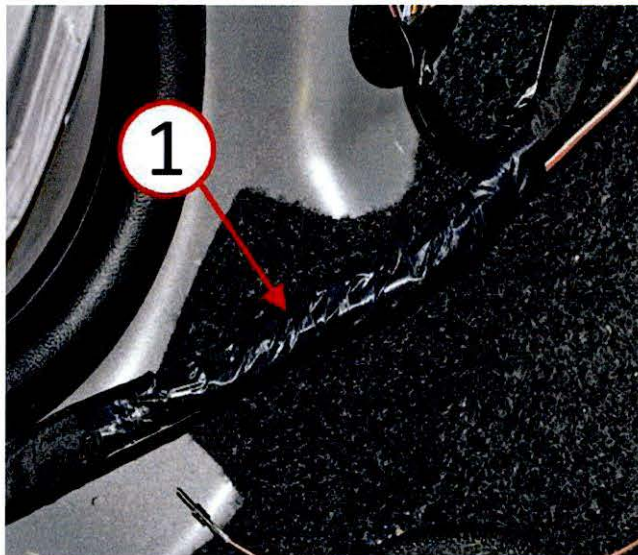

**Fig. 10 Splice Wires**
15. Using splice band (2) and heat shrink tubing (1), splice heated mirror circuit wire C15 BR-WT with heated backlite circuit wire C15 BR-WT (3) (Fig. 10). Refer to the detailed repair procedures available in: DealerCONNECT> TechCONNECT under: Service Info> 29 - Non-DTC Diagnostics> Circuit Testing Procedures> Standard Procedure> WIRE SPLICING.